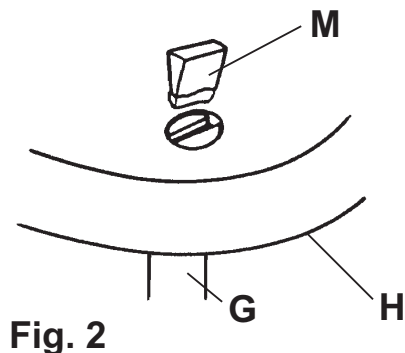

Fig. 2
After the back is in place, put a little glue on the tapered ends of the Wood Wedges (M) and pound them into the slots in the bottom of the Backposts (G) as shown in Figure 2.